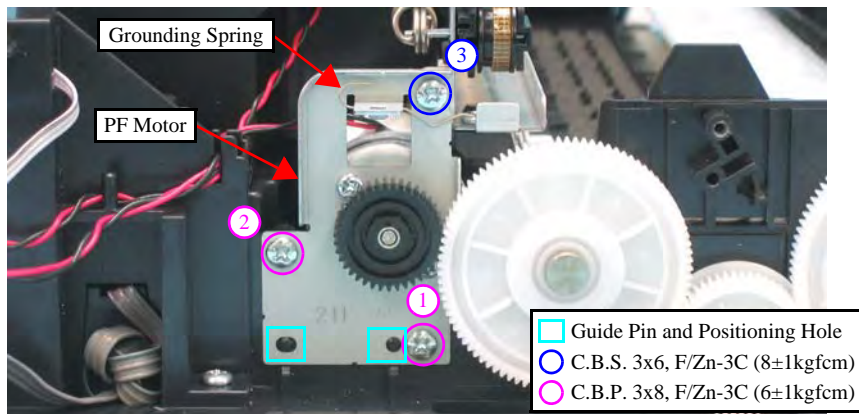

Figure 4-62. Removing the PF Motor (2)
- Insert the guide pins (x2) on the Base Frame into the positioning holes (x2) of the PF Motor as shown in Figure 4-62.
- Tighten the screws in the order given in Figure 4-62.